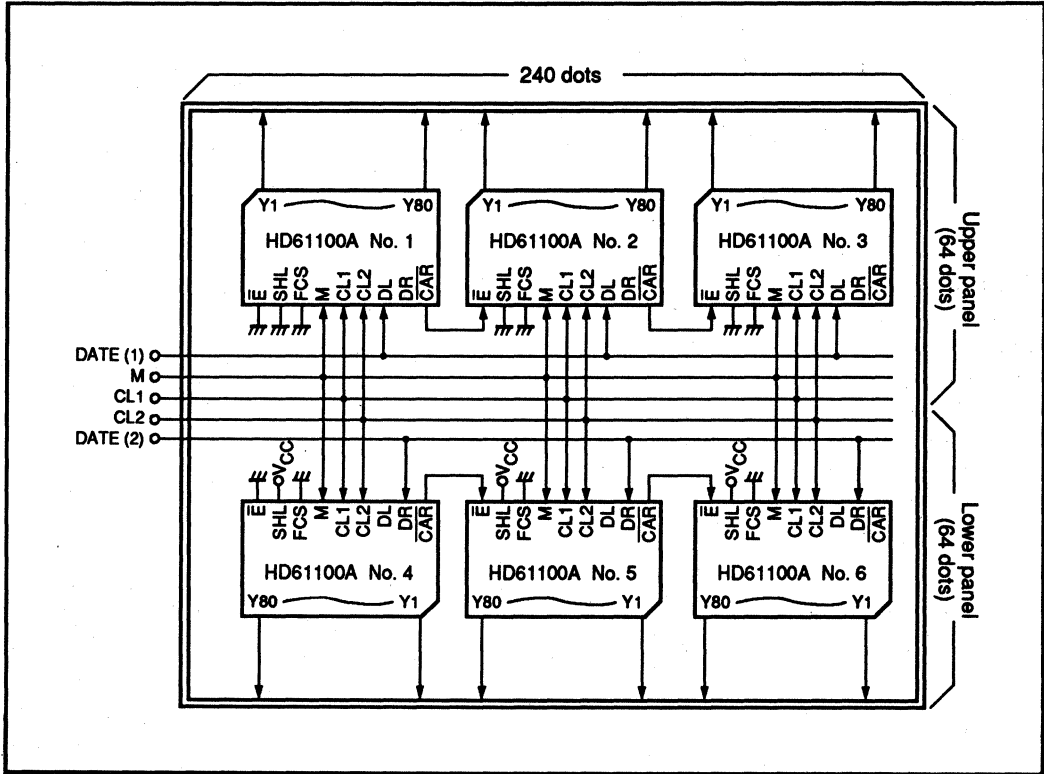

Figure 3 128 × 240 Dot Liquid Crystal Display
The liquid crystal panel (figure 3) is divided into upper and lower parts. These two parts are driven separately. HD61100As No. 1 to No. 3 drive the upper half. Serial data, which are input from the DATA(1) terminal, appear at Y₁ → Y₂ → -- Y₈₀ of No. 1, then at Y₁ → Y₂ → -- Y₈₀ of No. 2 and then at Y₁ → Y₂ → -- Y₈₀ of No. 3 in the order in which they were input (in the case of SHL = low). HD61100As No. 4 to No. 6 drive the